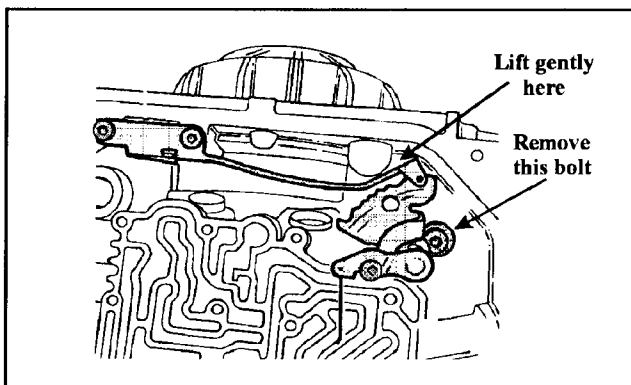

Figure 87
6. While carefully lifting up on the detent spring, gently twist and remove the manual selector lever shaft from the transmission (See Figure 87). Be careful not to damage the detent spring when removing the selector shaft.